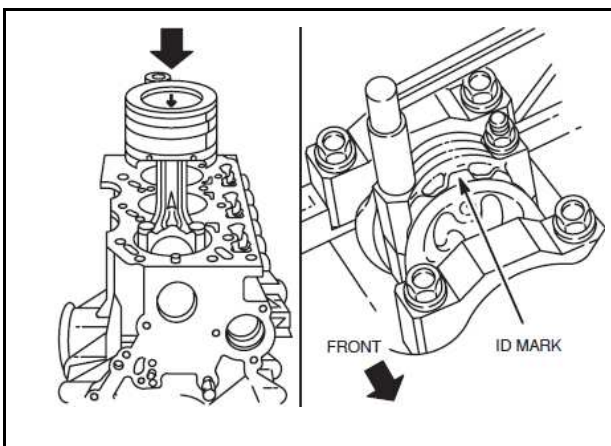

Fig. 6 - Installing Piston And Connecting Rod
2. Using ring compressor, SST, install piston and connecting rod assemblies with arrow on piston facing front, Fig. 6.